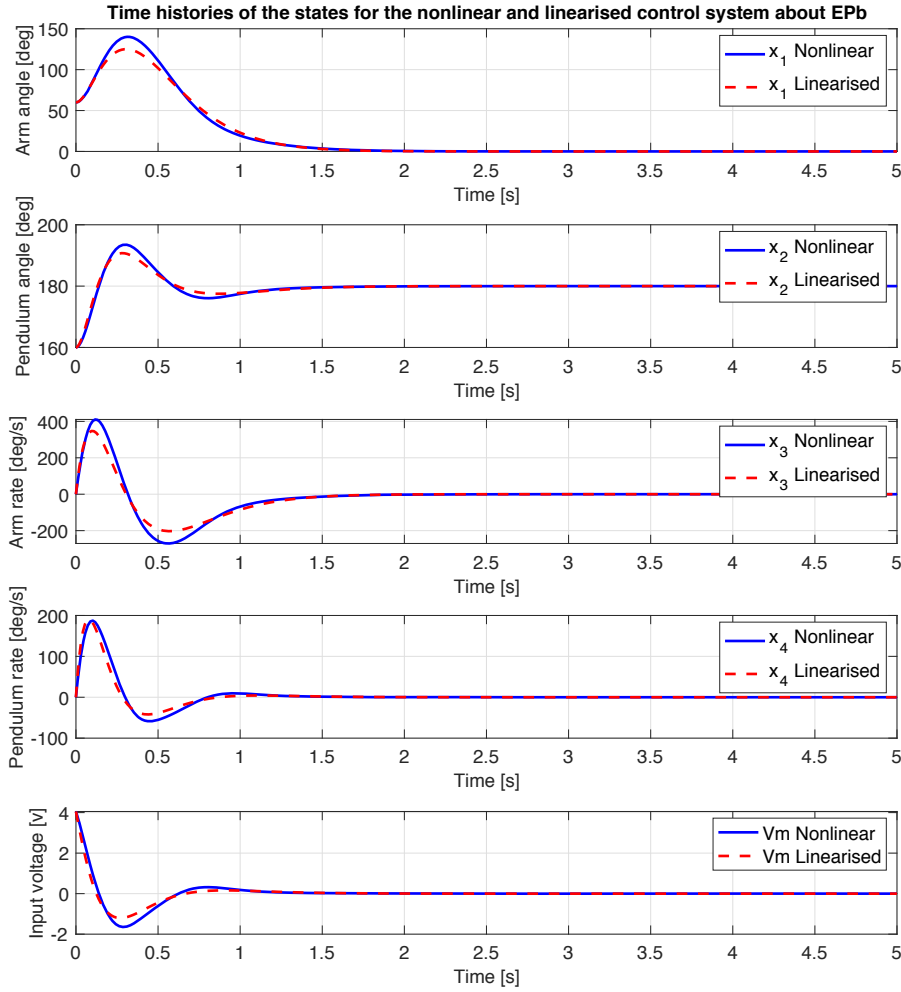

Figure 3: Time histories of the states and input voltage.
7. Repeat this process for initial conditions about the equilibrium point \bar{x}_b . Save your script as `rp_mainfile_sfc_comparison.b.m`. Sample results for the initial conditions $x_1(0) = 60$ deg, $x_2(0) = 160$ deg, $x_3(0) = 0$ deg/s and $x_4(0) = 0$ deg/s are shown in Figure 3, where we selected the following eigenvalues $\{-5, -6, -7, -8\}$.